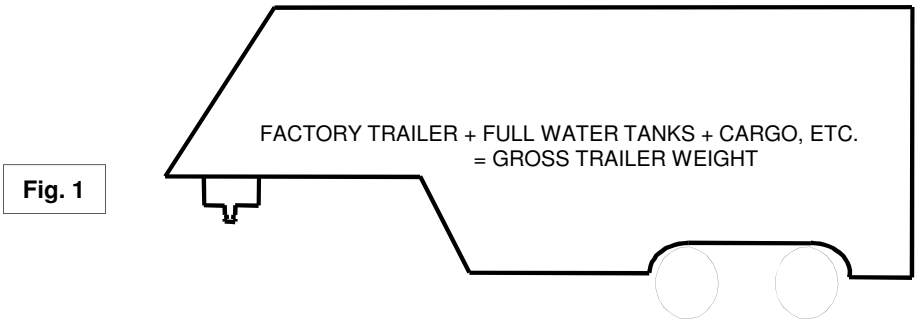

Fig. 1
- Towing vehicle must have a manufacturer’s rated towing capacity equal to or greater than the gross trailer weight (dry weight of the trailer plus payload of the trailer). (See Fig. 1)